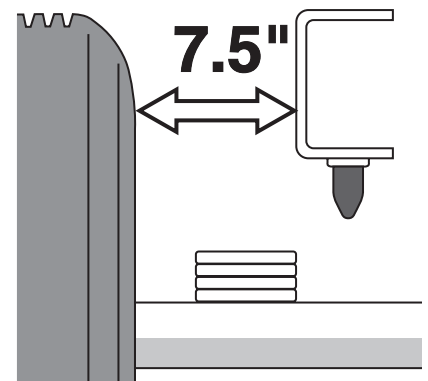

fig. 3
3. Measure the distance between the frame and the tire. This kit requires a minimum of 7.5” of clearance for a fully inflated air spring (Figure 3).